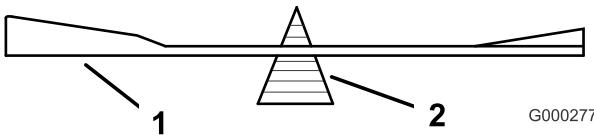
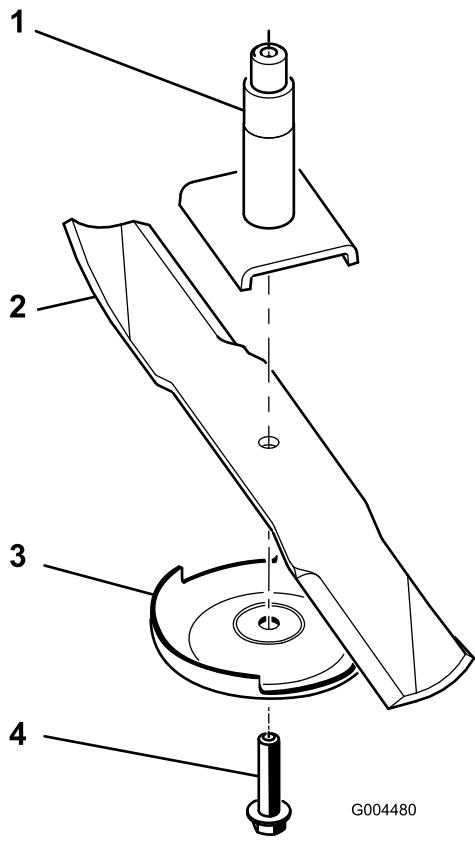

Figure 74
Figure 75
- Remove the blade bolt, anti-scalp plate, and blade from the spindle shaft (Figure 75).
- Check the balance of the blade by putting it on a blade balancer (Figure 74). If the blade stays in a horizontal position, the blade is balanced and can be used. If the blade is not balanced, file some metal off the end of the sail area only (Figure 75). Repeat this procedure until the blade is balanced.
- Install the blade onto the spindle shaft (Figure 75).
2. Install the anti-scalp plate and blade bolt (Figure 75).